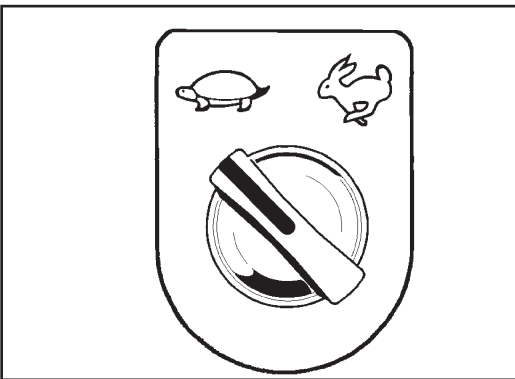

Fig. 43
- Select the desired travel speed range (Fig. 43).